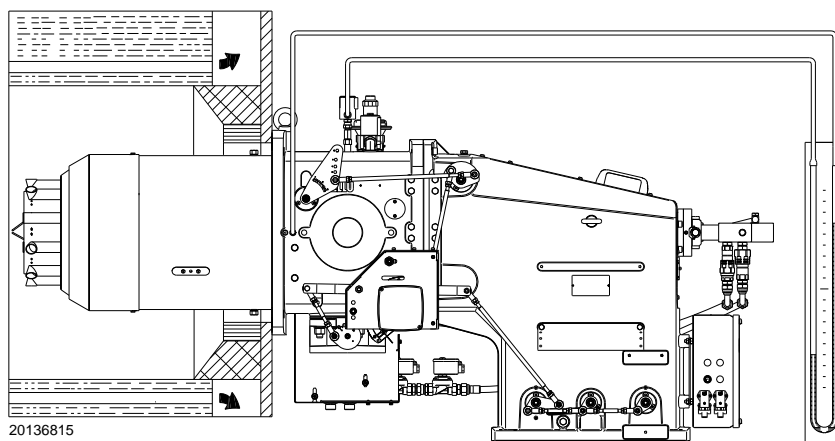

Fig. 31
- Fit a U-type pressure gauge or a differential pressure gauge (Fig. 31), with socket (+) on the gas pressure of the pipe coupling and (-) in the combustion chamber. The manometer readings are used to calculate MAX burner output.
The arrival of the gas at the pipe coupling is shown on the U-shaped pressure gauge (Fig. 31) or else with the help of a digital pressure gauge on the pressure test point under the pipe coupling.